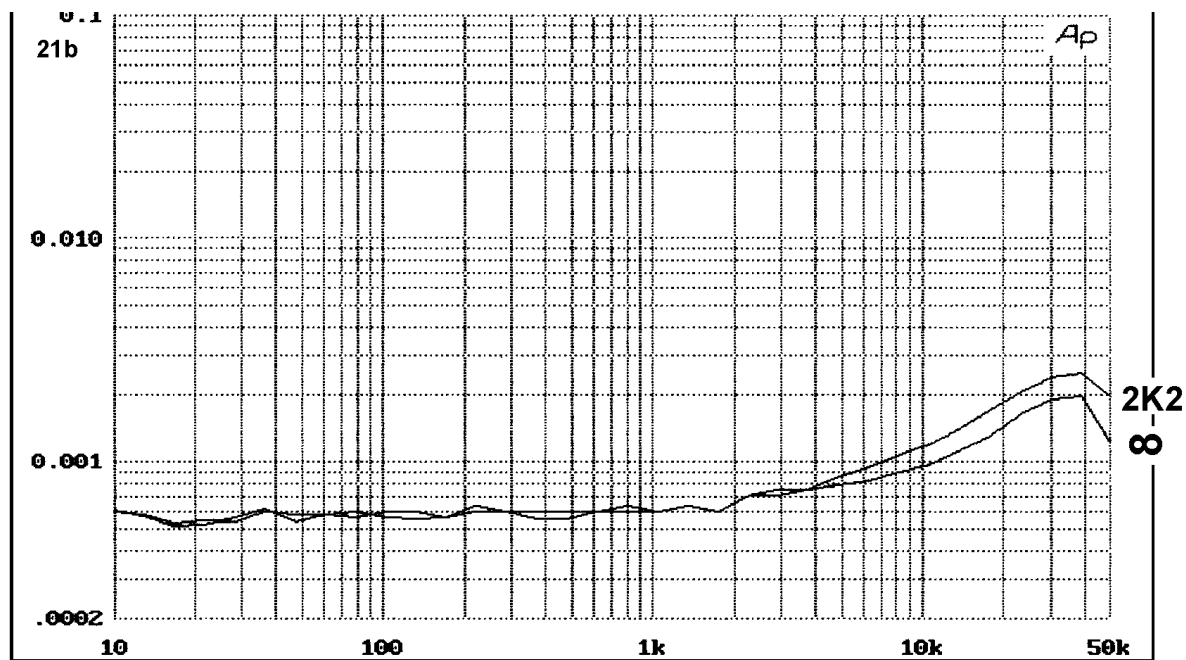

Fig 4 THD of the improved opamp circuit. Showing that the effect of a 2K2 load on linearity is negligible. 8 Vrms out. 21B
- Fig 4 The improved opamp circuit. Effect of 2K2 load on linearity is negligible. 21B